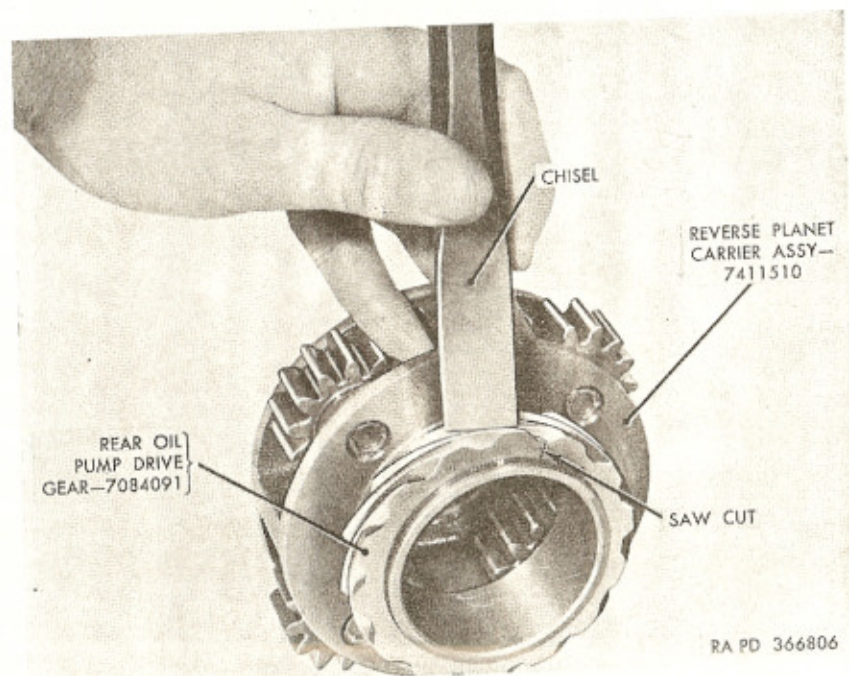
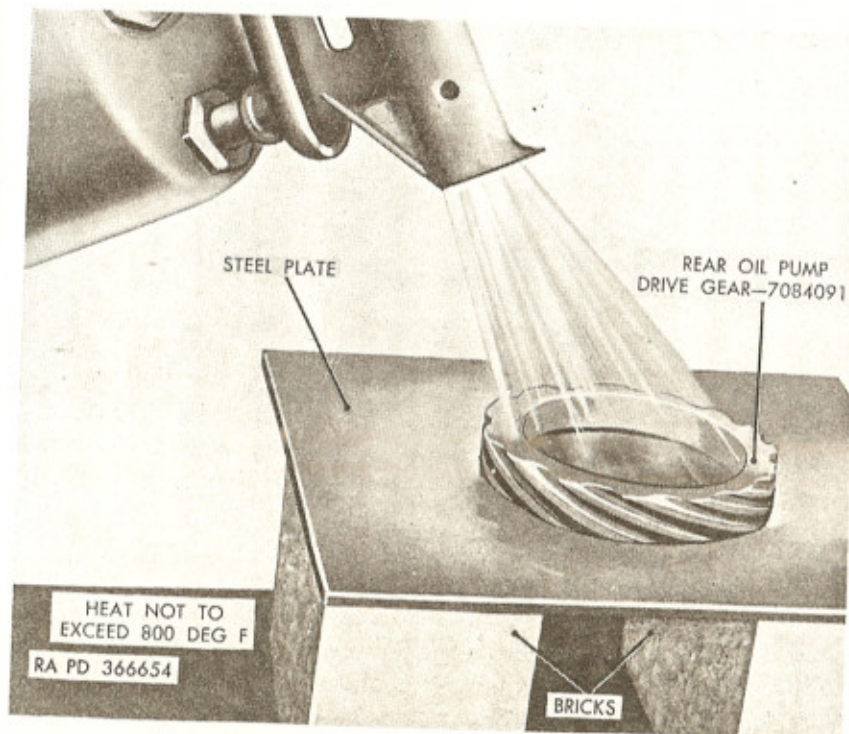

Figure 139. Removing rear oil pump drive gear.
Figure 140. Heating rear oil pump drive gear.
3. Using blunt taper chisel and hammer, remove gear by splitting at saw cut (fig. 139). Use care not to damage hub of planet carrier with chisel.
4. Discard steel ball (M) which locates drive gear on planet carrier hub.
6. Place new drive gear locating ball (M) in notch in planet carrier hub. Use artillery and automotive grease (GAA) to hold ball in place.
7. Place new drive gear on a metal plate supported by two bricks; then use a torch to heat gear (fig. 140) until it just begins to discolor or show traces of turning blue. Temperature must not exceed 800°F.
9. Install new snap ring (K) to secure drive gear on planet carrier.